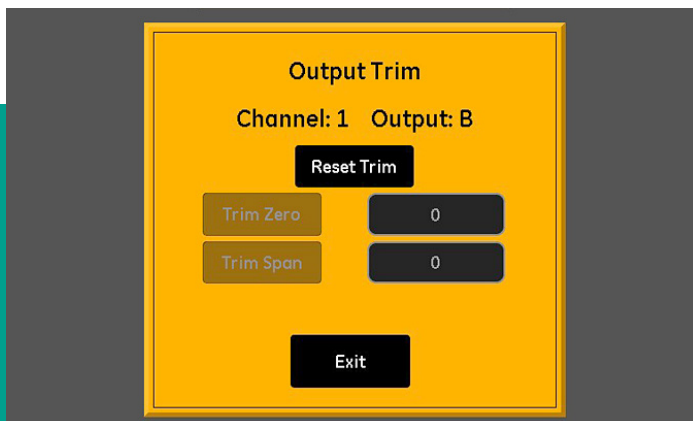

Figure 45: Output trim screen
3. Tap the **channel (1-6)** and **output (A or B)** to be trimmed, and then tap the **trim** button to open a screen similar to *figure 45* below.